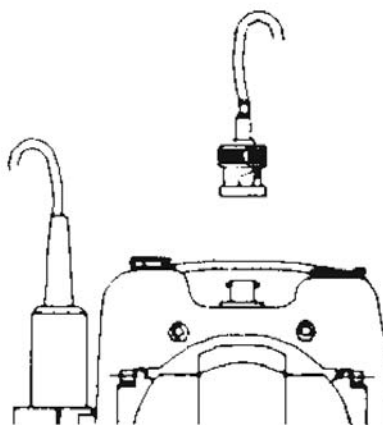

Figure 5: Insert the BNC connector from the electrode cable into the BNC socket on the meter.
3. Slide the BNC connector of the electrode over (Figure 5).